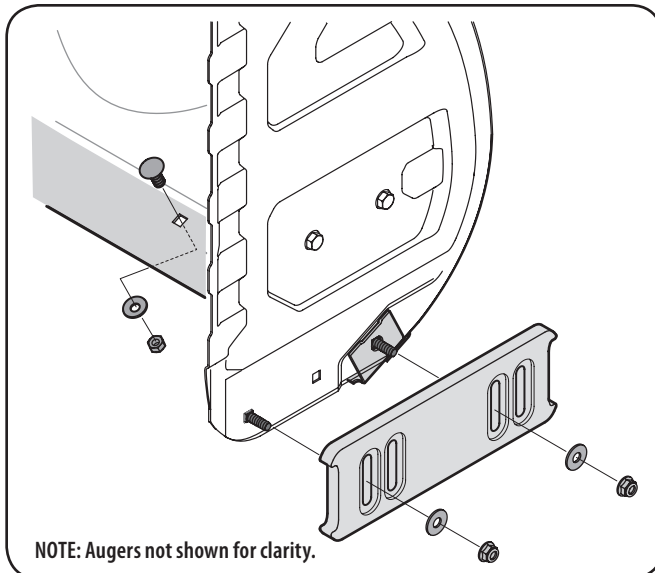

Fig. 6-1
2. Reassemble new skid shoes with the four carriage bolts, washers (two on each side) and hex flange nuts. Refer to Fig. 6-1.